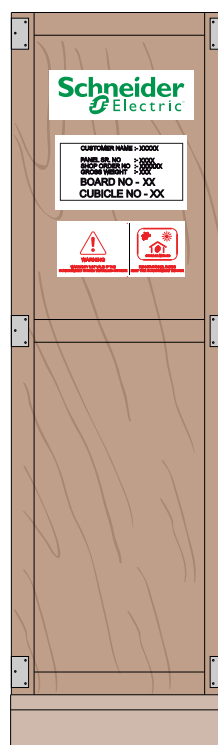

Figure 6
- For water or air transport, the units are packed in sealed aluminium foil with desiccant and in a closed wooden case with a tightly closed wooden base, as shown in the Figure 6.